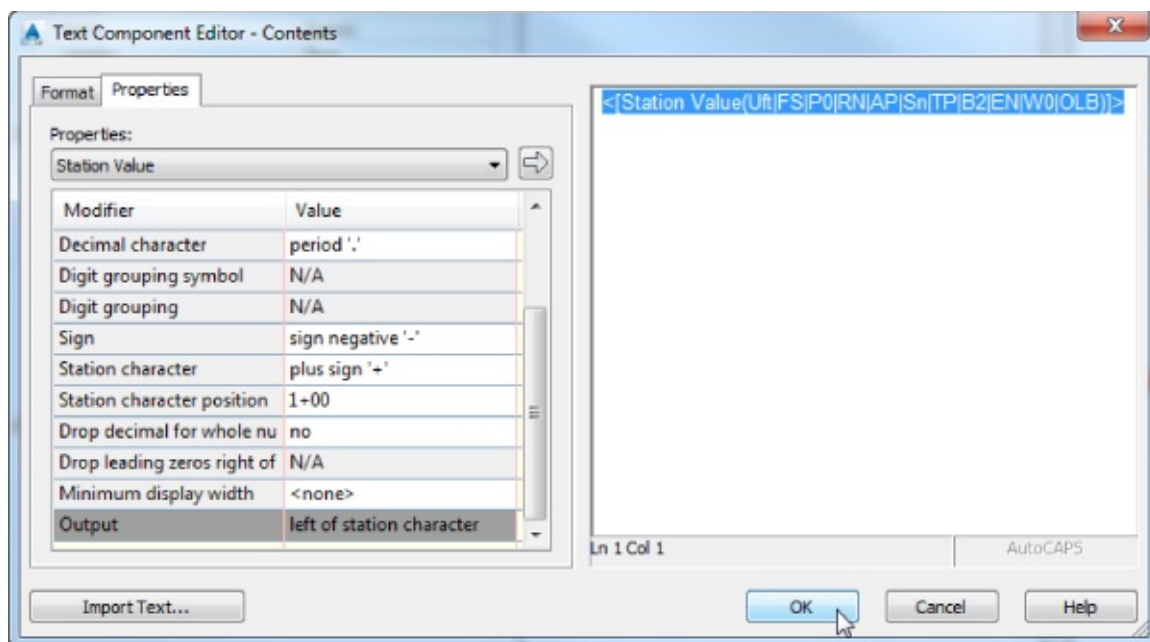

Figure 18.34 Modifying the Station Value Output value in the Text Component Editor dialog
9. Select the Left Of Station Character option, as shown in Figure 18.34, and click the arrow. (Metric users, the resulting label will be more interesting if you use the Right Of Station Character option instead. Because this alignment is less than 300 m, the left option will give you all 0s!)